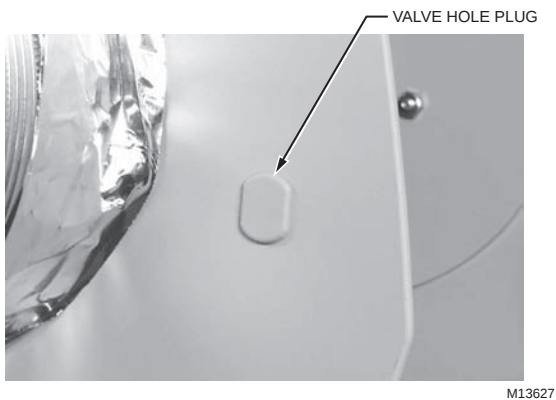

Fig. 26. Installing Valve Hole Plug.
7. Insert the Valve Hole Plug in the “D” hole on the opposite side of the Float Valve. See Fig. 26.